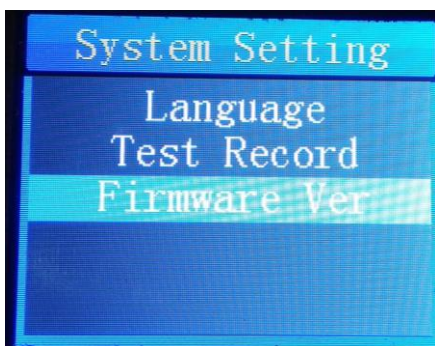
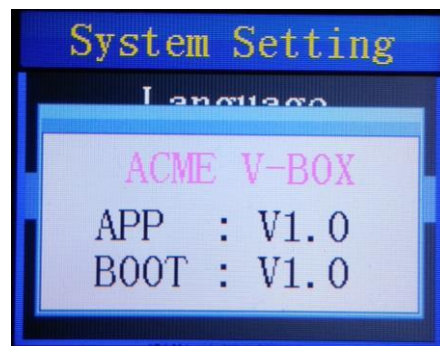

Figure 6
Figure 7
5. Enter into the **System Setting** page and use the UP/DOWN button to select **Firmware Ver.** (Figure 6), confirm your selection with ENTER. Enter into the **ACME V-BOX** page to view the firmware version of the Vacuum Tester (Figure 7), press the MENU button to exit.